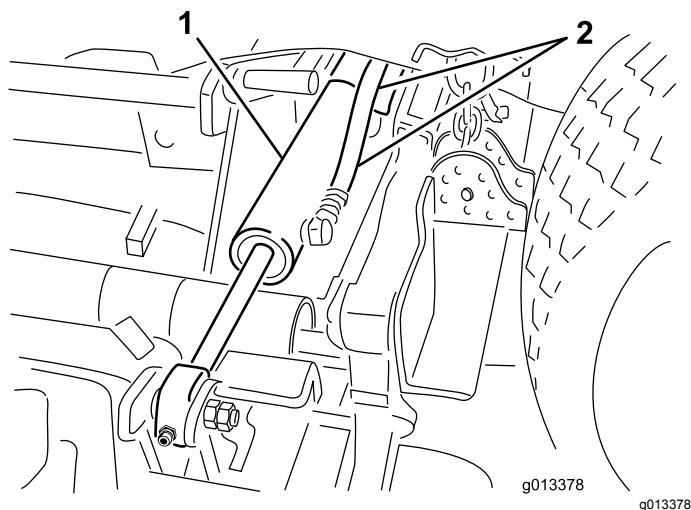

Figure 3
6. Disconnect the hydraulic hoses from the wing-deck-lift cylinders (Figure 3).